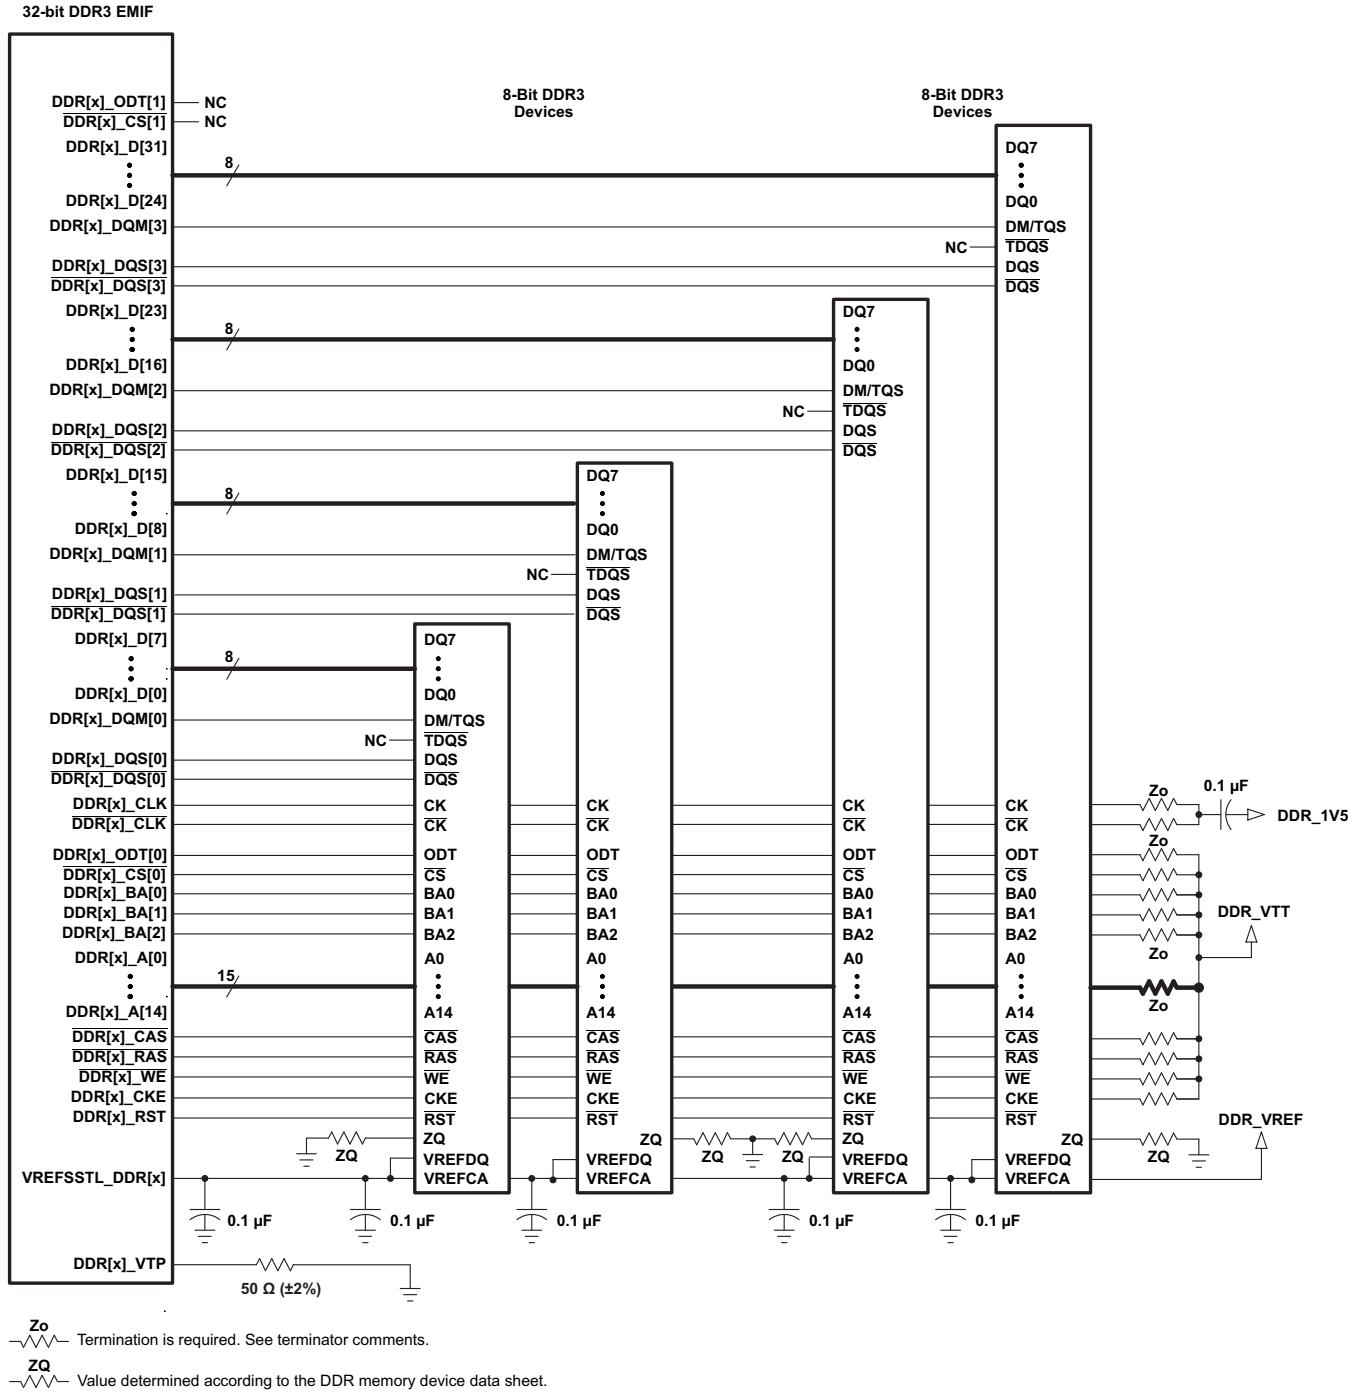

Figure 9-55. 32-Bit, One-Bank DDR3 Interface Schematic Using Four 8-Bit DDR3 Devices
The DDR3 interface schematic varies, depending upon the width of the DDR3 devices used and the width of the bus used (16 or 32 bits). General connectivity is straightforward and very similar. 16-bit DDR devices look like two 8-bit devices. Figure 9-54 and Figure 9-55 show the schematic connections for 32-bit interfaces using x16 and x8 devices.
(1) DDR3 speed grade depends on desired clock rate. Data rate is 2x the clock rate. For DDR3-800, the clock rate is 400 MHz.
(2) DDR3 devices with speed grades up to DDR3-1600 are supported; however, max clock rate will still be limited to 533 MHz as stated in *Switching Characteristics Over Recommended Operating Conditions for DDR3 Memory Controller*.
(3) For valid DDR3 device configurations and device counts, see Section 9.13.4.2.4, Figure 9-54, and Figure 9-55.